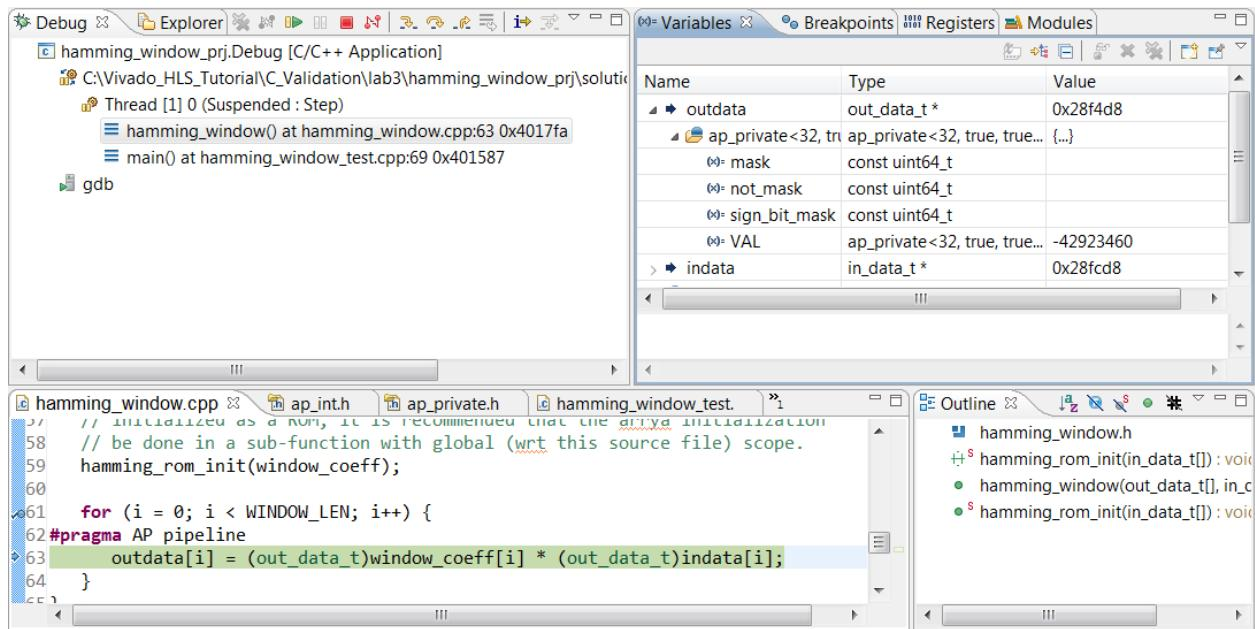

Figure 54 Arbitrary Precision Variables
10. Expand the outdata variable as shown in Figure 54 to see the value of the variable shown in the VAL parameter.